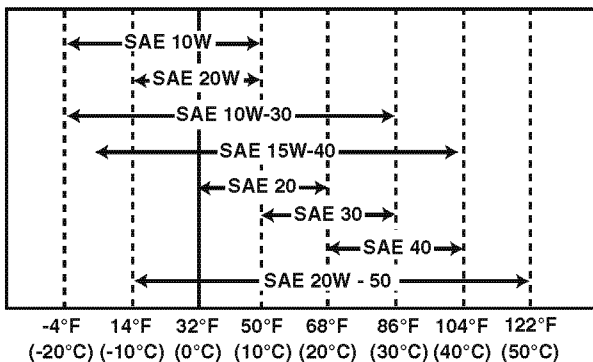

Figure 3
3. Select the oil viscosity based on the ambient temperature where the engine is being operated. See the SAE Service Grade Viscosity Chart (**Figure 3**).
Select the appropriate engine oil viscosity based on the ambient temperature and use the SAE Service Grade Viscosity Chart in **Figure 3**.